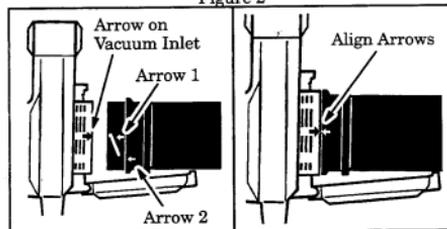

Figure 3
2. Locate the arrows on the upper vacuum tube and on the vacuum inlet. Figure 3.
3. Hold open the vacuum inlet cover and align arrow 1 with the arrow on the vacuum inlet. Figure 3.